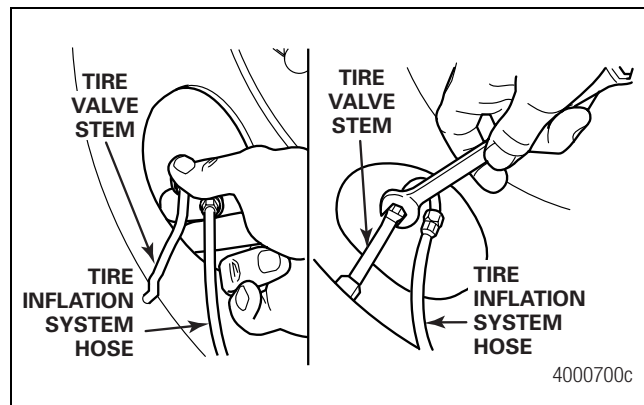

Figure 2.49
6. Hand-tighten the tire inflation system hoses to the tire valve stems. Then use a 7/16-inch wrench to tighten the connections an additional half-turn. Figure 2.49.